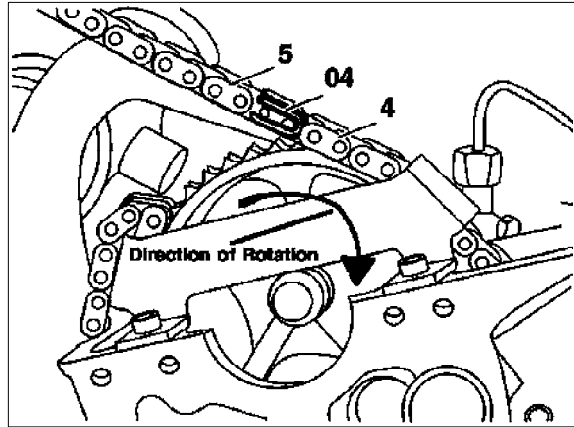

Figure 5
13. Connect new timing chain (5, Figure 5) to the old timing chain (4, Figure 5) using the suitable threading link (04) from Special Tool 602 589 02 40 00.
14. Using a ratchet and socket on the crankshaft, carefully turn engine in direction of rotation, thereby rolling in the new chain (5, Figure 5) onto all the sprockets (in place of the old timing chain) while removing the old chain at the same time.